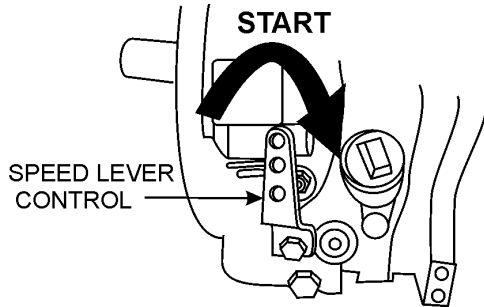

Figure 7. Engine Speed Lever (START Position)
1. Move the engine speed lever to the **START** position (See Figure 7)..